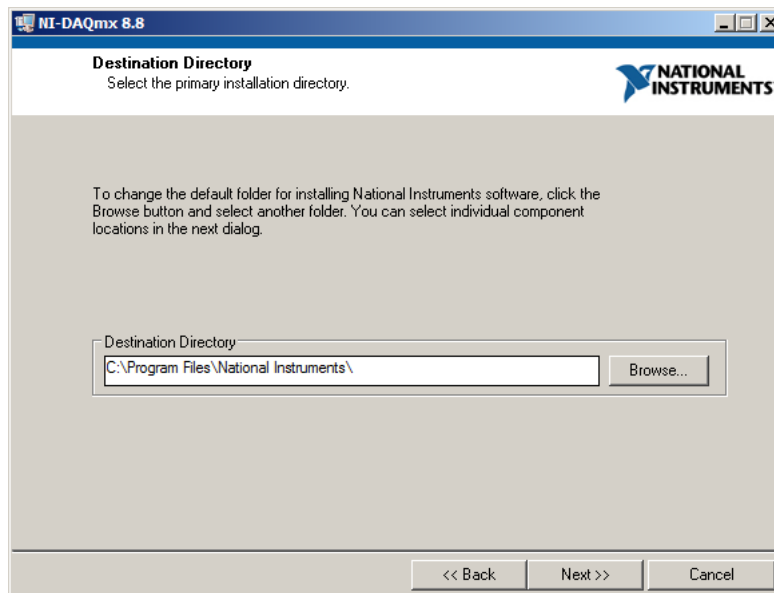
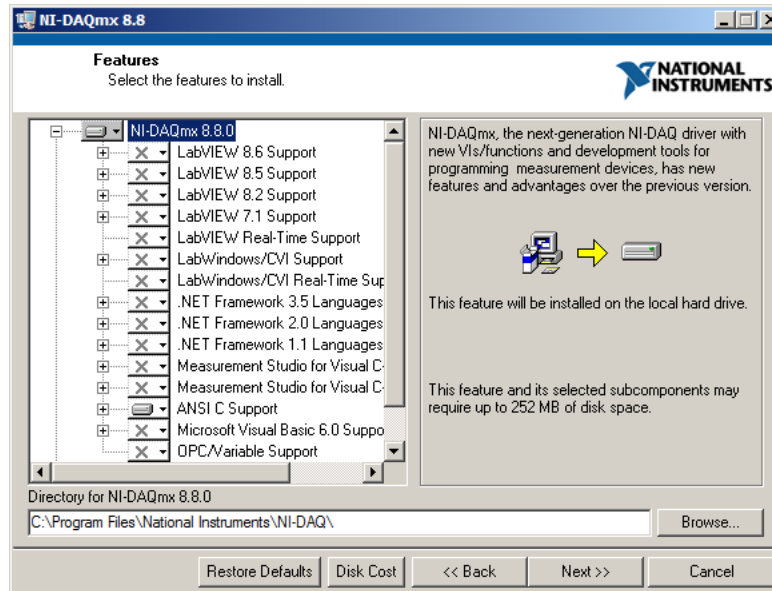

Figure A.3: Directory choice.
Figure A.4: Feature selection.
- The next two installer pages allow the target directory (Figure A.3) and feature set (Figure A.4) to be chosen. The default feature selection should be sufficient.